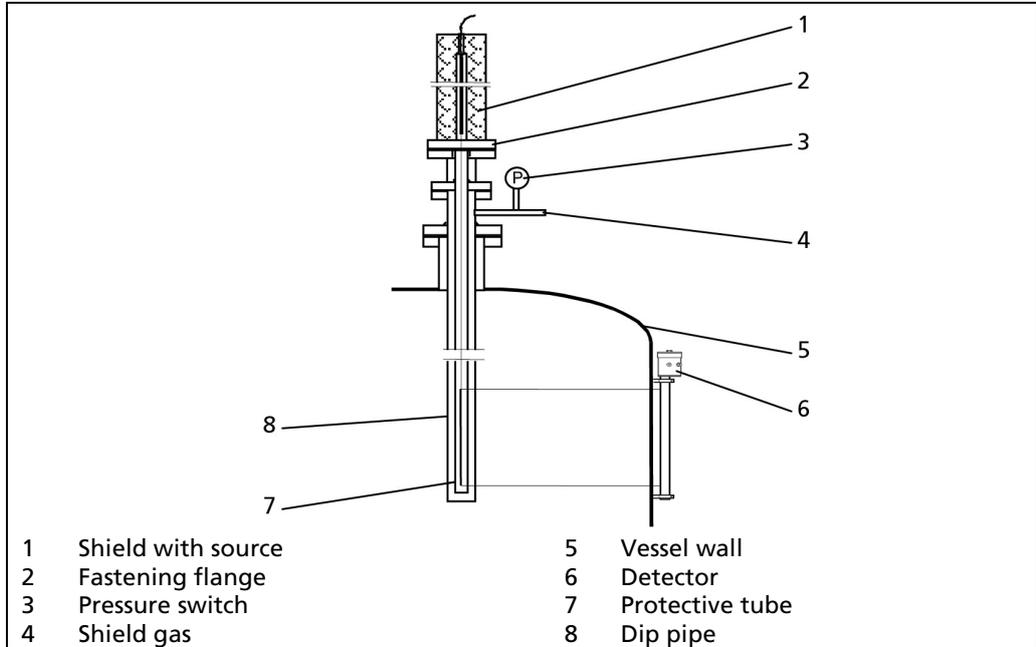
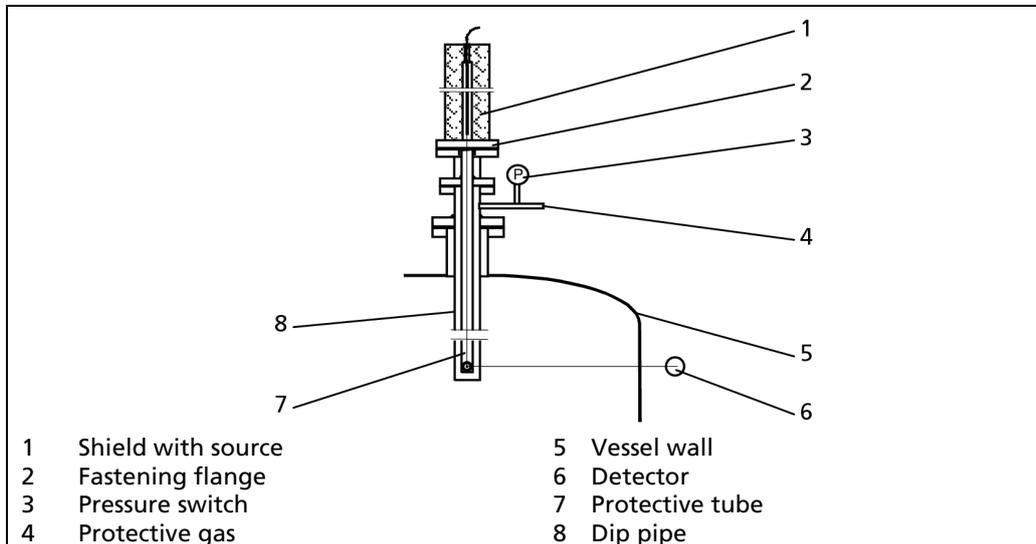

Fig. 8 Dip pipe installation with rod source shield
Fig. 9 Dip pipe installation with point source shield
For some specific applications, it is important to identify any damage to the dip pipe in order to secure the radioactive source before it is damaged. Fig. 8 and Fig. 9 show installation proposals which meet the most stringent safety requirements. For this purpose, a double-walled protection tube whose interspace is filled with shield gas is used. Via a pressure switch, any damage or leak is recognized immediately.
5. Position the shield (Fig. 8, Fig. 9, item 1) in its installation position at the fastening flange (Fig. 8, Fig. 9, item 2) on the dip pipe (Fig. 8, Fig. 9, item 8) of the vessel. The operator has to attach the dip pipe to the vessel from above or from below or on the side, depending on the constructive circumstances.